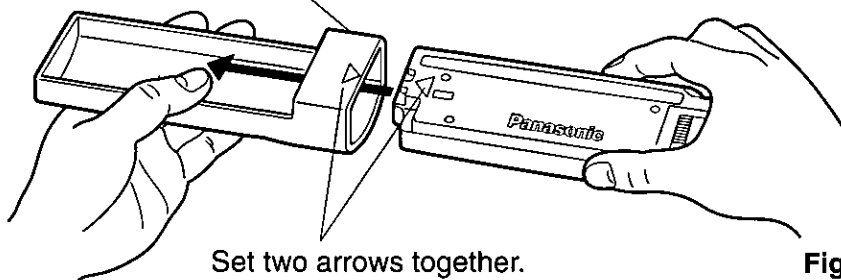

Fig.3
- ④ As shown in Fig.3, insert the removable face plate with the arrow pointing toward the removable face plate case until you hear a "click". Keep the removable face plate in the case. Then, you can bring the plate safely. (Only for CQ-DP720EUC)
⑩ Removable Face Plate Case